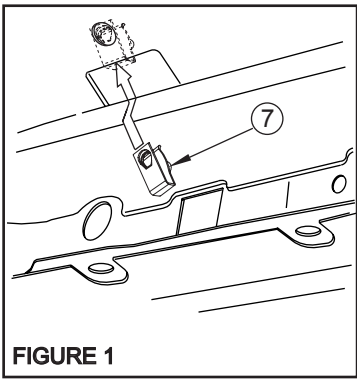

FIGURE 1
- STEP 3. Install extruded u-nuts as shown. **SEE FIGURES 1 & 2.**